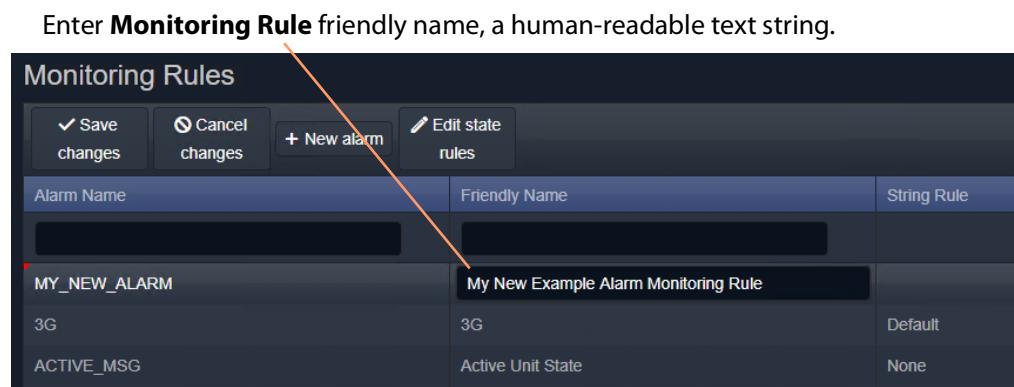

Figure 72: Enter a Friendly Name for the Monitoring Rule
- 3 Enter a friendly name (title) for the new **Monitoring Rule**, a human-readable text string. See Figure 72.